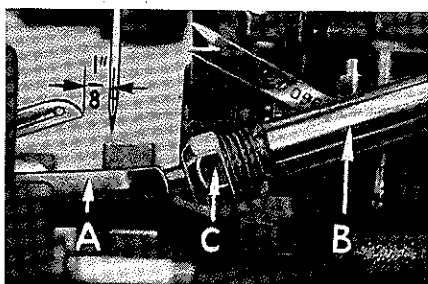

Fig. 4
At this point, insert lower loop (A, Fig. 4) into bar (B). With lower loop at left end of its stroke, set loop point $1/8$ inch from center of needle (Fig. 4) using loop gauge No. 21225- $1/8$. Do not have lower loop deflecting needle. Tighten nut (C). Now assemble differential (front) feed dog.